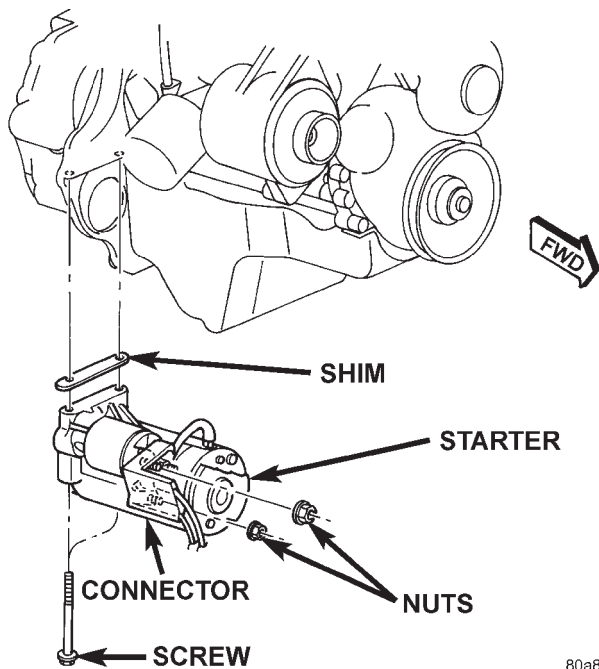

Fig. 11 Starter Remove/Install - 2.5L Engine
- (1) Disconnect and isolate the battery negative cable.
- (2) Raise and support the vehicle.
- (3) Disconnect the battery cable and solenoid feed wire from the starter solenoid (Fig. 11).